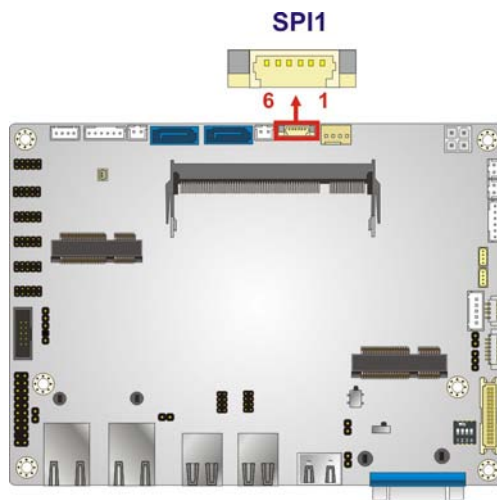

Figure 3-26: SPI Flash Connector Location
- CN Location: See **Figure 3-26**